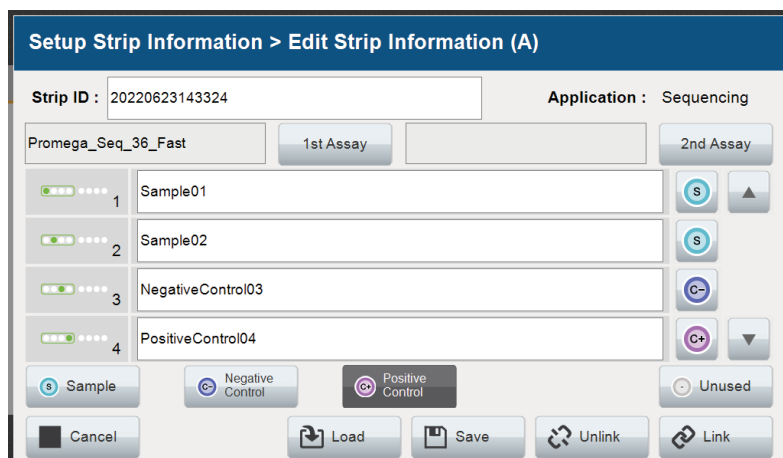

Figure 91. Completed 'Edit Strip Information' screen.
- When all information is entered and verified for the strip, select **Link** on the lower right corner of the 'Edit Strip Information' screen (Figure 91). This will link the strip to the run. If you want to save the Strip Information to use in future runs, you will need to save the information by selecting **Save** at the bottom of the 'Edit Strip Information' screen (Figure 91). This will link the strip to the run but will also save that Strip ID so that it can be loaded later into another run (see Section 5.3.3).